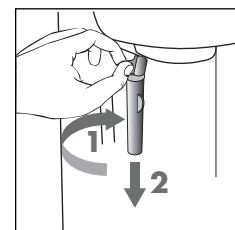

fig. 22
2. Hold the upper part tight with one hand and use your other hand to unscrew the steam nozzle, rotating it in a clockwise direction, and remove it from the milk frother (fig. 22).